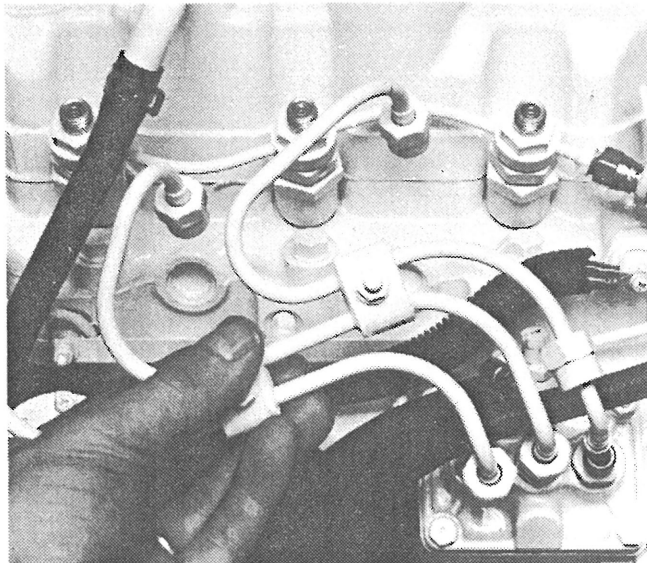

Figure 53 - Remove delivery lines.
- Disconnect the delivery lines at the pump and injectors (figure 53). Cover the ends of the lines, the injector inlet and leak-off ports.